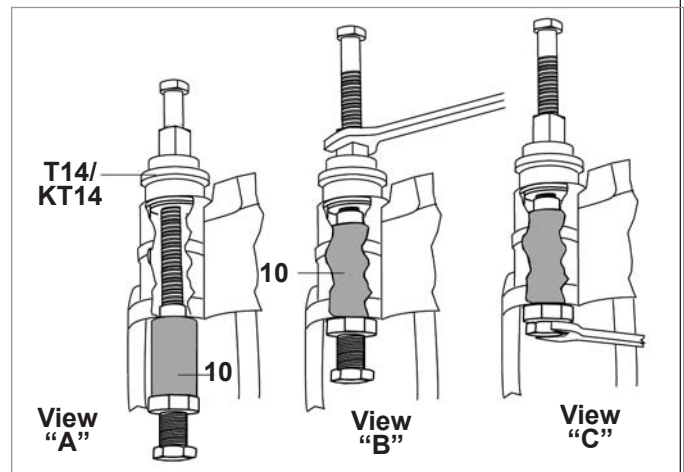

FIGURE 77 - VIEW "A" AND "B": DRAW THE BRASS BUSHING INTO POSITION. VIEW "C": LOCK THE BUSHING INTO POSITION
5.6.21 With the dimpling tool (T16) in position, tighten the screw in its base until it contacts the dimpling screw housing. The movement of this screw forces three points outwards, leaving indentations in the brass bushing. See Figure 77, view "C".